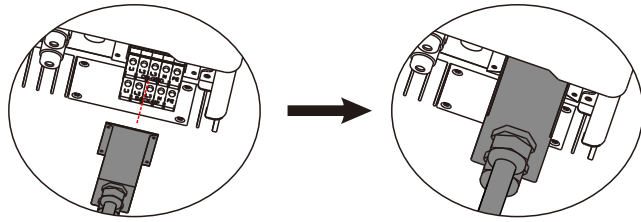

Figure 4.3-6 Install ac connection terminals
Step 4. Connect the combined AC cable to the AC terminal of the inverter, tighten the cable to a torque of 2.0 N M to 2.5 N M, and then lock the AC cover. See Figure 4.3-6.